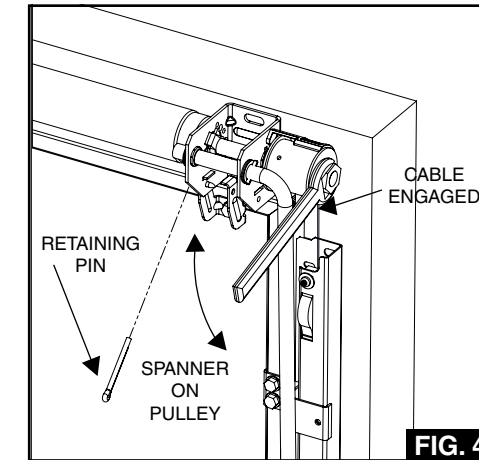

FIG. 4
- Wearing Safety Glasses, grip the Right Hand Pulley with a 22mm A/F Spanner and, by turning upwards, align holes in spring anchor bush and spring shaft. Insert retaining pin (4mm dia x 50mm split pin or similar) fully into this hole as shown, then remove the Spanner (See Fig 4).
Remove the retaining pin from the Spring Anchor Bush (at RH end) using a 22mm A/F spanner on the pulley, push upwards slightly and pull out the retaining pin using pliers (See Fig 4), you now have tension on the door.